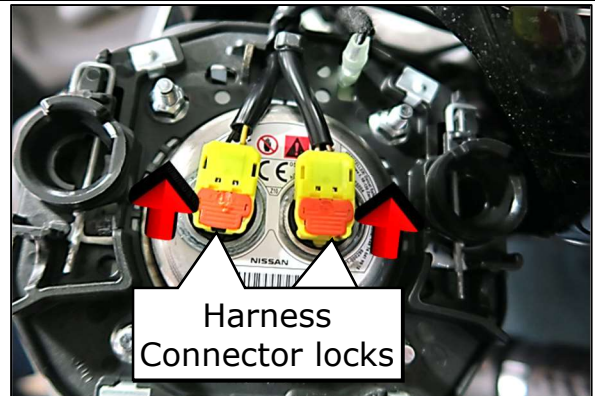

Figure 11
- Using a small flat blade screwdriver, carefully disengage locking tab on the two airbag connectors (Figure 11)